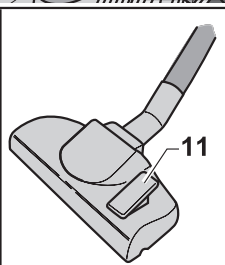

Fig. 6
- To clean hard floors, parquet etc.: press the lever (11 Fig. 6) back to extract the brush bristles.
- To vacuum on carpets, rugs etc.: press the lever (11 Fig. 6) forwards to retract the brush bristles.